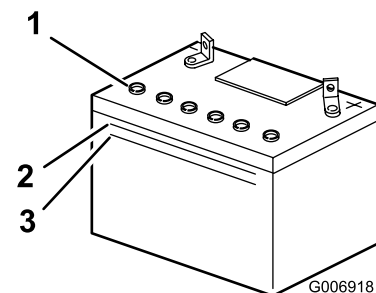

Figure 28
2. Look at the side of the battery. The electrolyte must be up to the upper line (Figure 28).
Note: Do not allow the electrolyte to fall below the lower line (Figure 28).
3. Remove the vent caps from the battery (Figure 28).
5. Wait 5 to 10 minutes after filling the battery cells. Add distilled water, if necessary, until the electrolyte level is up to the Upper line (Figure 28) on the battery case.